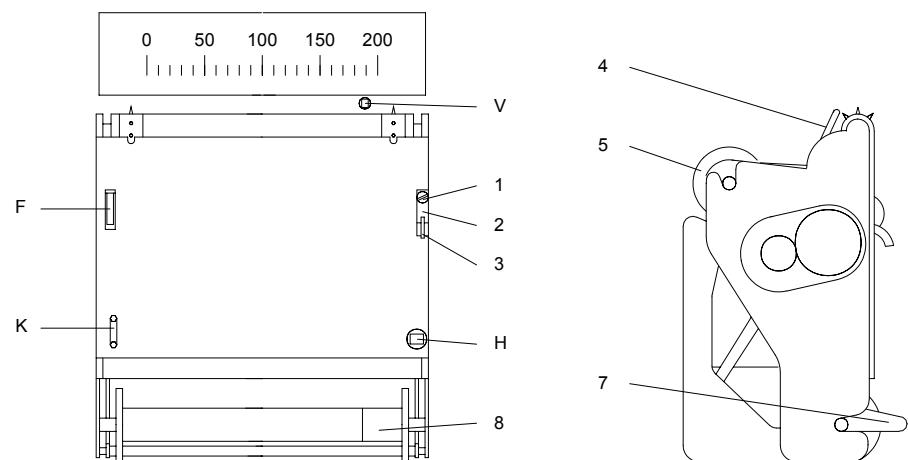

Figure 10 Paper drive mechanism for type 230.01, 240.0, 340.0, 340 RNR, 341.0, 361.01
The adhesive strip must be entirely removed. The transportation lock roller is inserted instead of the delivery roller 5 (figure 10). It should be kept for future dispatch. At the device with transportation lock, the delivery roller is in the separate cardboard box.
5.1 Paper drive mechanism according to figure 10
Release the middle piece of the holder. Compress the fibre pen holder, remove the holder from the recording lever cradle and take out the pen. Loosen screw 1 figure 10, lift transportation lock 2, turn transportation lock 180° and tighten the screw again. Lift lever 3 and swing the transport mechanism forward as far as it will go. Lift clip 4. Insert the recording chart roll (cardboard tube) on the delivery roller firmly so that the carrier centre enters into the cardboard tube. (The round perforation of the chart paper must contact the left side of the disk). Insert the delivery roller true-sided (mechanical stop left on the roll). Pull the paper forward and insert the perforation on the pin roll. Fold back the clip 4 and swing the recording mechanism in position. Lift the pawls 7 and remove the shaft axle 8. Fold the paper tip into a pointed shape. Insert the paper tip into the wide slot of the shaft axle and wind up some turns of the reel. The form closure of the two-piece shaft axle must be kept! Install shaft axle again.
Hand-wind paper drive mechanisms are wound up **only** with the supplied crank at the square (square socket for types 230.01, 240.0, 340.0, 340 RNR, 341.0 and 361.01 according to figure 10; male square for recording mechanisms according to paragraph 5.2). Wind up the recorder by clockwise rotation, not till stop position! Pressing the switch starts chart travel in hand-wind- and synchronous motor recorders.
7.3.1 Continuous-chart pen recorders according to figure 10
Immerse the temperature sensor in liquid and keep it immersed in the bath for at least 5 minutes while continuously stirring or feeding compressed air etc.. Check the bath liquid temperature by using test thermometer. If thermometer reading and recorder value are different, adjust the recorder carefully at the spindle V (figure 10 at types 230.01, 240.0, and 341.0). For this purpose, use the supplied square wrench.
Use a check gauge (class 0,6) for comparison of readings. Make the setting as described for temperature recorders (figure 10 at types 340.0, 341.0, 361.01).